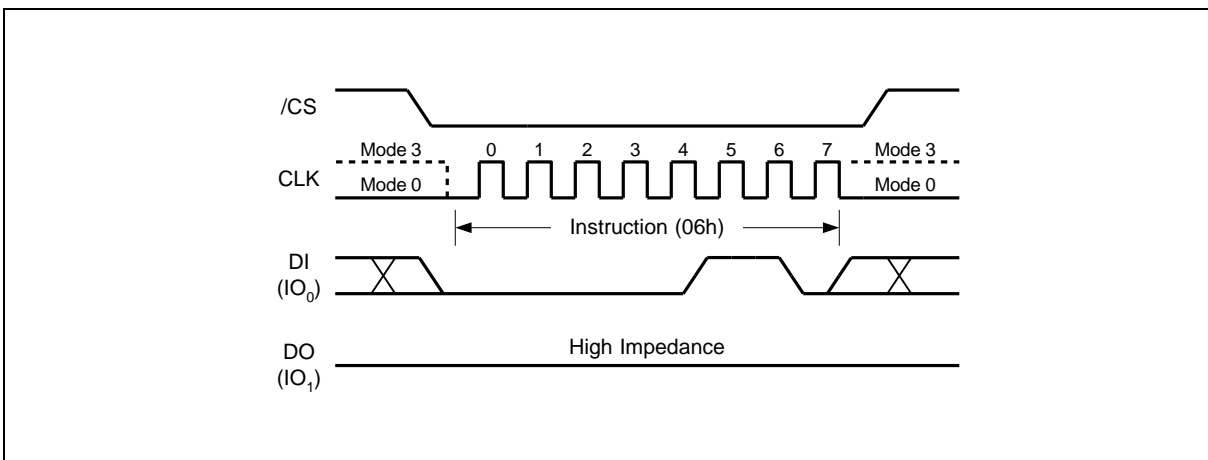

Figure 4. Write Enable Instruction Sequence Diagram
Instructions vary in length from a single byte to several bytes and may be followed by address bytes, data bytes, dummy bytes (don't care), and in some cases, a combination. Instructions are completed with the rising edge of edge /CS. Clock relative timing diagrams for each instruction are included in figures 4 through 34. All read instructions can be completed after any clocked bit. However, all instructions that Write, Program or Erase must complete on a byte boundary (/CS driven high after a full 8-bits have been clocked) otherwise the instruction will be ignored. This feature further protects the device from inadvertent writes. Additionally, while the memory is being programmed or erased, or when the Status Register is being written, all instructions except for Read Status Register will be ignored until the program or erase cycle has completed.
The Write Enable instruction (Figure 4) sets the Write Enable Latch (WEL) bit in the Status Register to a 1. The WEL bit must be set prior to every Page Program, Quad Page Program, Sector Erase, Block Erase, Chip Erase, Write Status Register and Erase/Program Security Registers instruction. The Write Enable instruction is entered by driving /CS low, shifting the instruction code “06h” into the Data Input (DI) pin on the rising edge of CLK, and then driving /CS high.